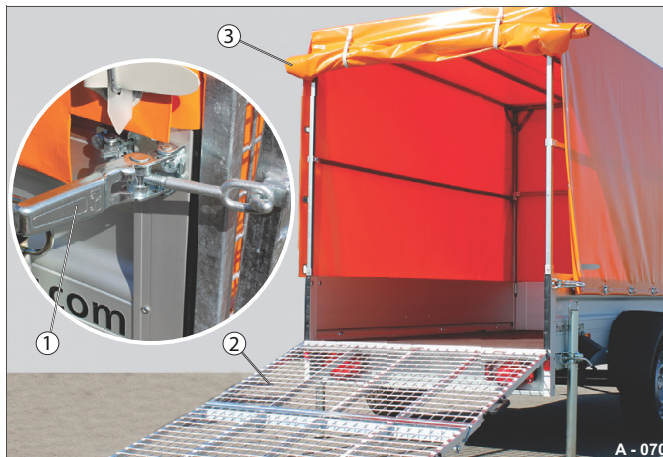

Fig. 82 Tarpaulin cover open, ramp wall folded down
- Open the ramp wall locks (Fig. 82 /1) - see "Handling locks" on page 106.
- Carefully fold down the ramp wall (Fig. 82 /2).
- Open the rear wall (Fig. 82 /3) see "Handling cover" on page 124.
- Close the ramp wall locks (Fig. 82 /1) - see "Handling locks" on page 106.